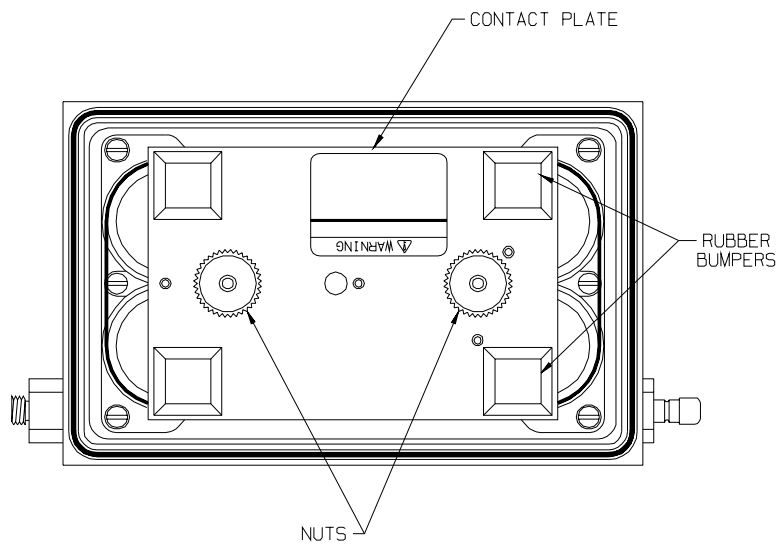

Figure 3-5. Battery Removal
5. Remove the two nuts (FIGURE 3-5) and lift off the contact plate.